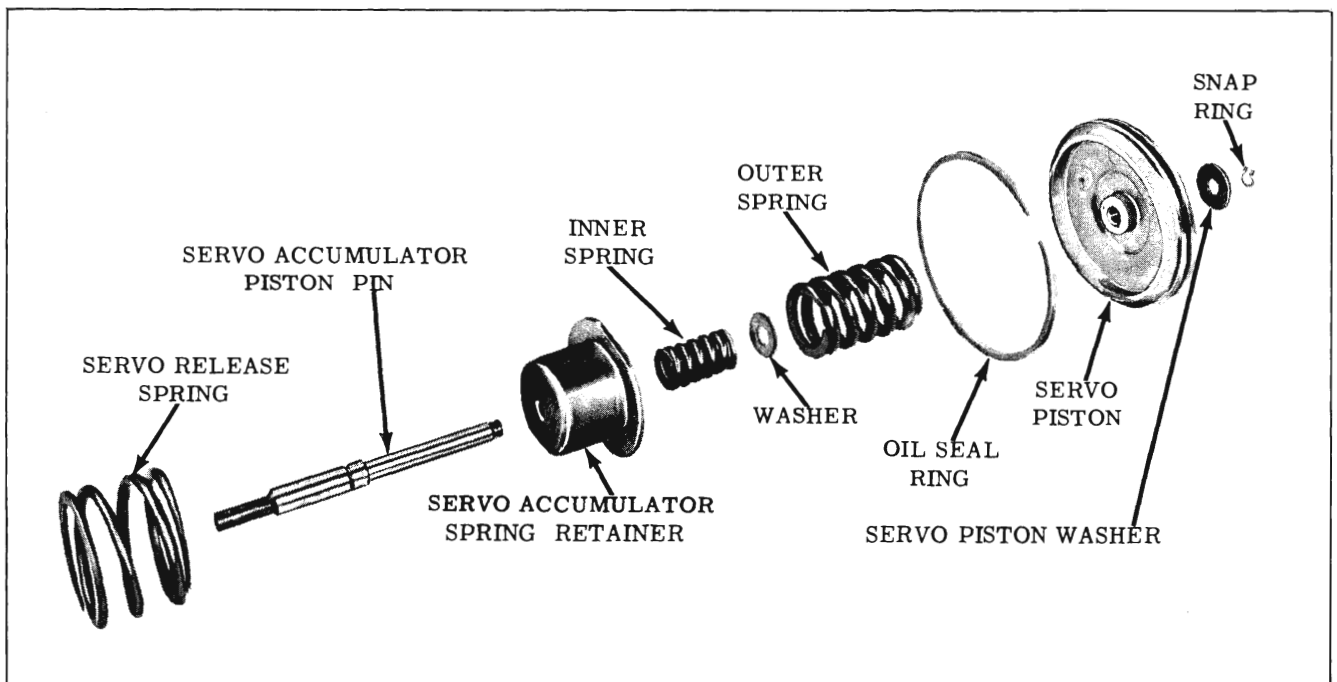

Fig. 3-273 Servo Piston Assembly
4. Remove the large servo piston washer, piston and ring, primary spring (large), servo accumulator washer, secondary spring (small) and the retainer. (Fig. 3-273)